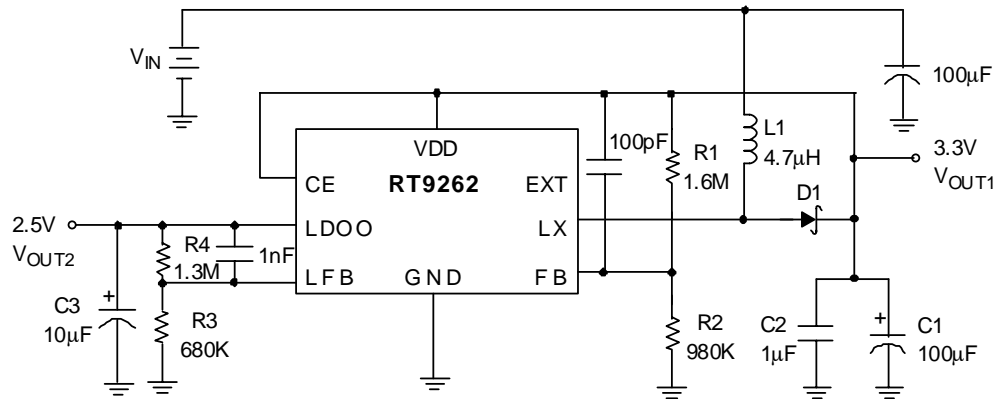
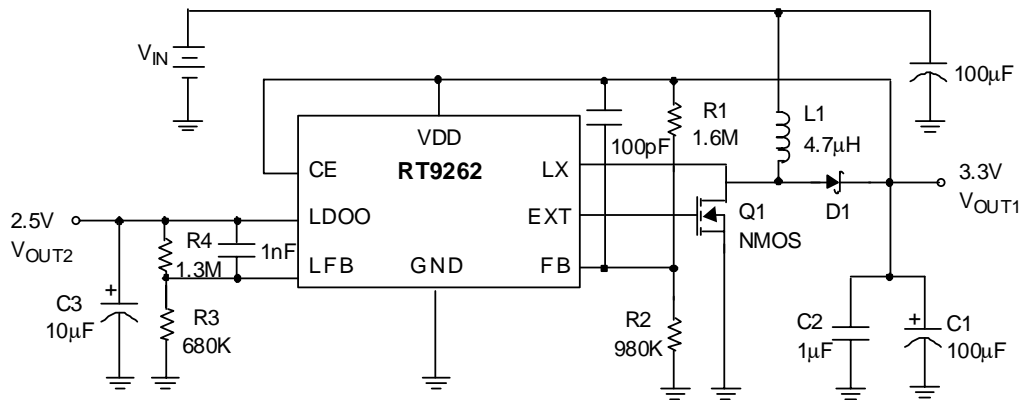
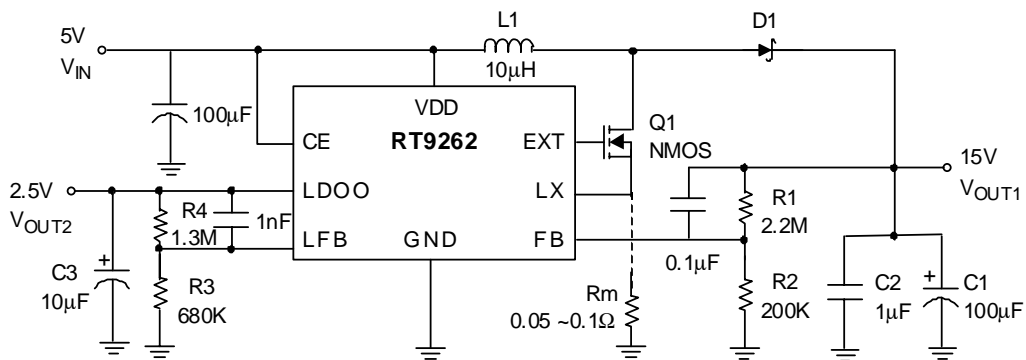

Fig. 1 RT9262 Typical Application for Portable Instruments below 400mA
Fig. 4 0.4A ~ 2A Output Current Application
Fig. 5 High Voltage Application (Rm should be added when $I_L > 100\text{mA}$)
Referring to application circuits Fig.1 to Fig.5, the output voltage of the switching regulator (V_{OUT1}) can be set with Eq.1.
Referring to application circuits Fig.1 to Fig.5, The selection of R1, R2, R3, and R4 based on the trade-off between quiescent current consumption and interference immunity is stated below:
- A proper value of feed forward capacitor parallel with R1 (or R4) on Fig.1 to Fig.5 can improve the noise immunity of the feedback loops, especially in an improper layout. An empirical suggestion is around $100pF \sim 1nF$ for feedback resistors of $M\Omega$, and $10nF \sim 0.1\mu F$ for feedback resistors of tens to hundreds $K\Omega$.
- The following diagram is an example of 2-layer board layout for application circuits Fig.1 to Fig.4.